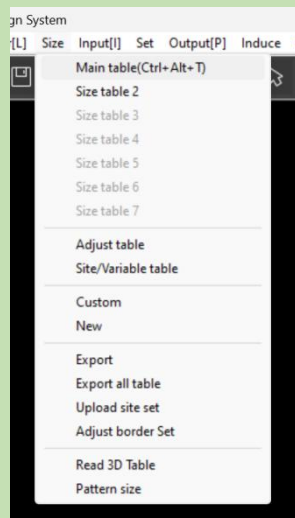

Figure 2-2
- 3. Size : Create a size chart, view parts, and variable tables (Figure 2-2).